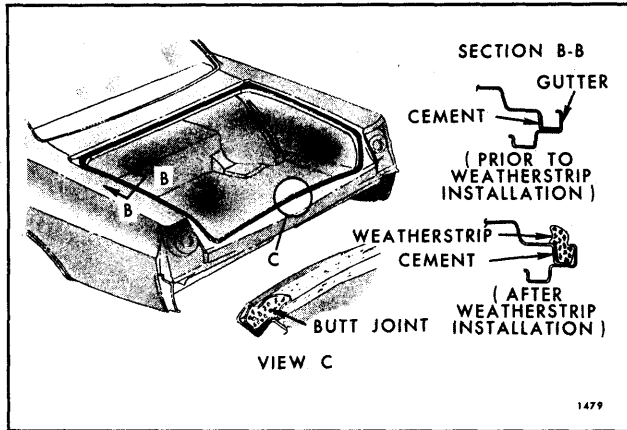

Fig. 8-31—Rear Compartment Weatherstrip Assembly
1. Separate "butt" ends of weatherstrip at rear compartment opening (Fig. 8-31).